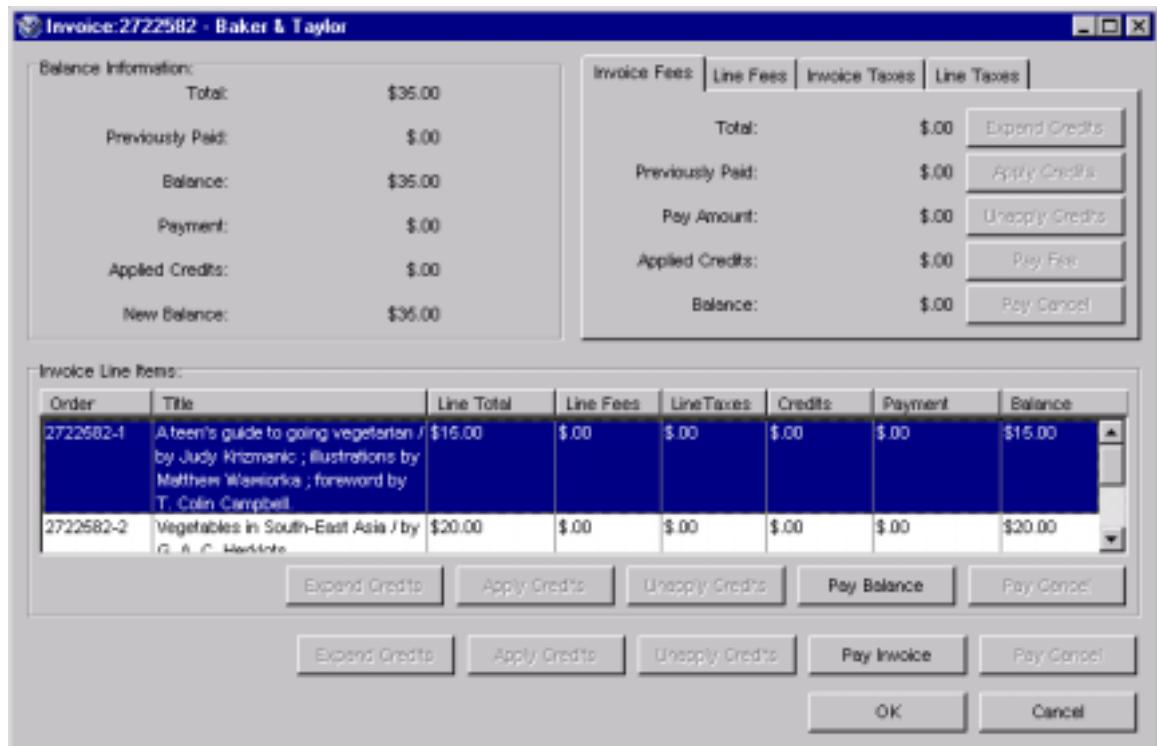

Figure 8-10. Invoice (Payment) Window
1. In the display box (*Figure 8-10*), highlight the invoice line item(s) for which you want to pay the line balance. This will activate the Pay Balance button.